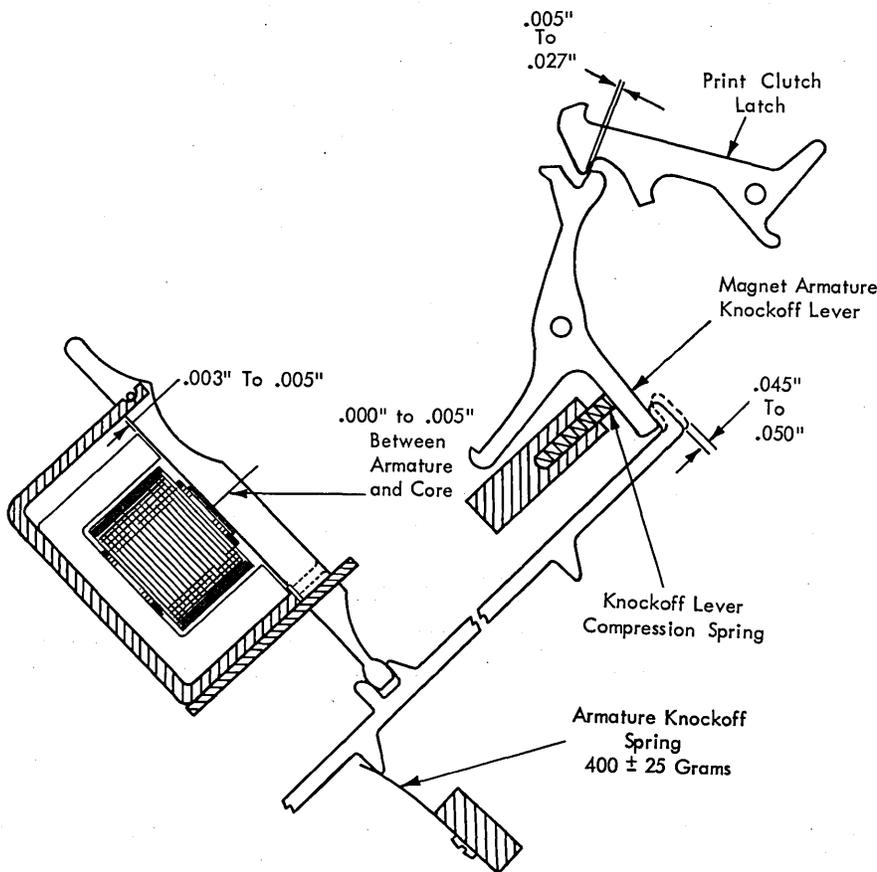

Figure 4-1. Print Magnet Armature and Link
1. Form the armature tip for 0.045" to 0.050" movement of the armature link (Figure 4-1).
3. Check for 0.000" to 0.005" clearance between the armature and the core with the armature attracted; also, 0.003" to 0.005" between the upper yoke and armature (Figure 4-1).
4. Position the armature knockoff spring assembly so that the armature links 1 and 120 contact the knockoff springs 0.012" to 0.018" before the armature is fully attracted. This should result in spring tension against the armature link of 400 grams \pm 25 grams (Figure 4-1).
1. With the print magnet armature attracted, there should be 0.005" to 0.027" clearance between the print clutch latch and the armature knockoff lever (Figure 4-1).